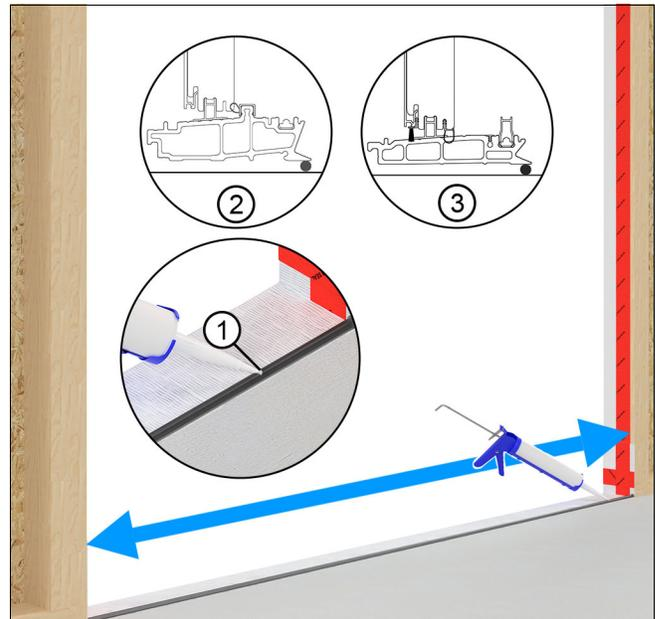

Figure 18
1. Apply a 3/8" (10) bead of sealant on the subfloor at the interior edge of the door opening. See Figure 18.